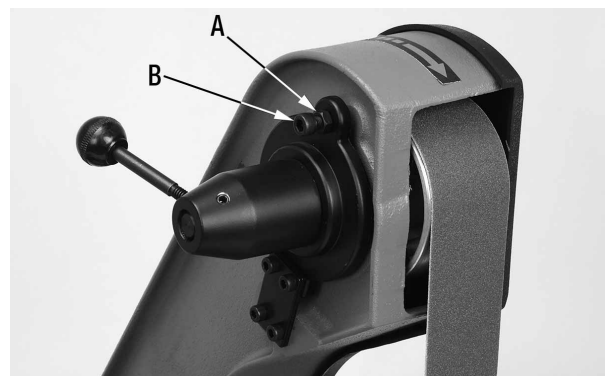

Figure 14
3. To adjust tracking, loosen hex. nut (A) Fig.14, and rotate the tracking cap screw (B) using a hex. key. If the sanding belt is tracking towards the right, turn cap screw clockwise. If the sanding belt is tracking towards the left, turn cap screw counterclockwise. Make small adjustments until sanding belt is tracking properly.
4. Retighten hex. nut (A) Fig.14, connect power cord to power source and check adjustment. Repeat if needed.